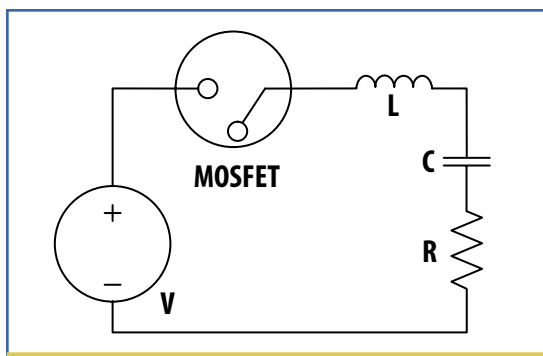

Figure 1. | Equivalent Circuit of Power Supply
DC-DC converters are used in electronics to convert between voltage levels and provide a stable and accurate supply. The nominal voltage in a car that runs on a 12 V battery is 14 V. Some infotainment circuits require a reduction to voltages of 5 V or 3.3 V. Conversely, LED lighting strings require a boost to 60 V, and permanent magnet DC motors like those used in hybrid and full electric vehicles present larger loads of several hundred volts. For these conversions, the power supply circuit typically will include a MOSFET, inductor (L), resistor (R), and capacitor (C). A switch, as shown in figure 1, can represent the MOSFET. In this circuit, the parasitic inductance of the wiring combined with capacitance of the MOSFET can interfere with the normal operation of the circuit. Components must be chosen or inserted to minimize the risk of this interference and maintain stable operation of the converter and the system, regardless of whether or not the converter design boosts or reduces the voltage supplied to the load.